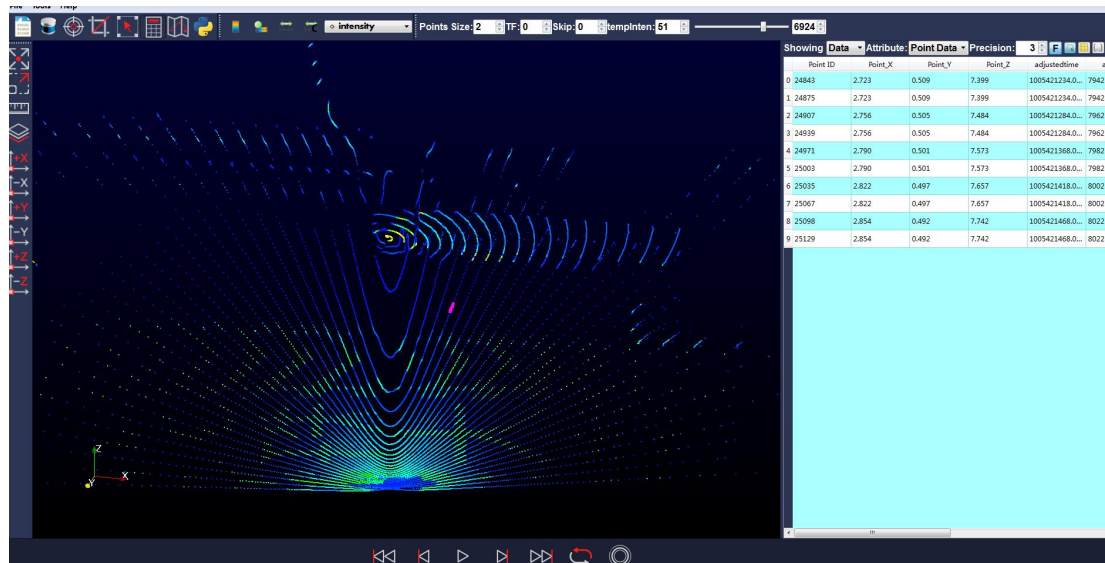

Figure C-14 RSVIEW List Selected Points
9. In the 3D rendered data pane, use your mouse to draw a rectangle to frame some data points. The data of these points will immediately populate the Spreadsheet and the selected data points will turn pink in the data pane (Figure C-14).